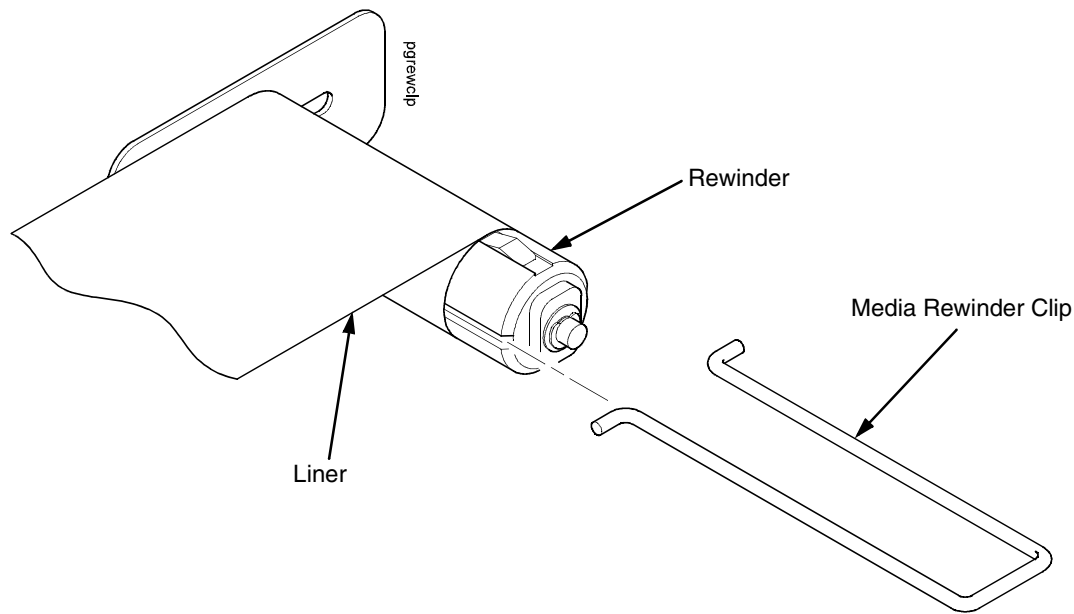

Figure 13. Securing Liner onto the Rewinder
12. Insert the media rewriter clip to secure the media. See Figure 13.